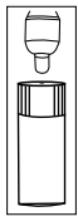

Abbildung 3B
3. Briefly place the probe tip close to the small hole, as shown in Figure 3B until an audible alarm is generated. This will be an indication that the unit is operating properly. Reseal the vial with the previously removed vinyl cap and return to the case.